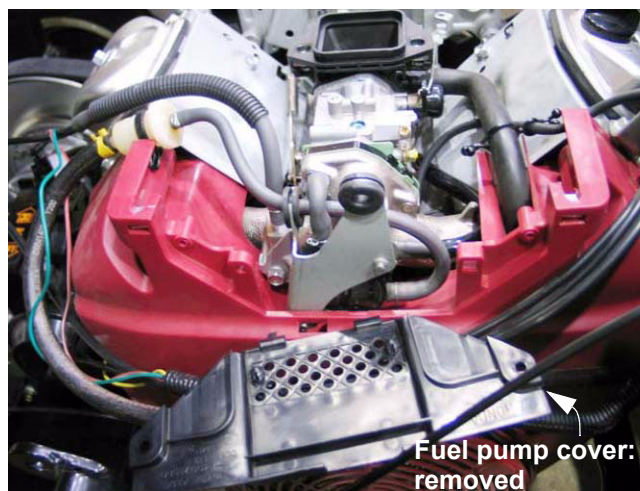

Figure 15.5
- 15.5. Remove the two phillips head screws that hold the fuel pump cover in place. Move the cover out of the way, along with the hoses, tubes, and wires that are secured to it with cable ties. See Figure 15.5.